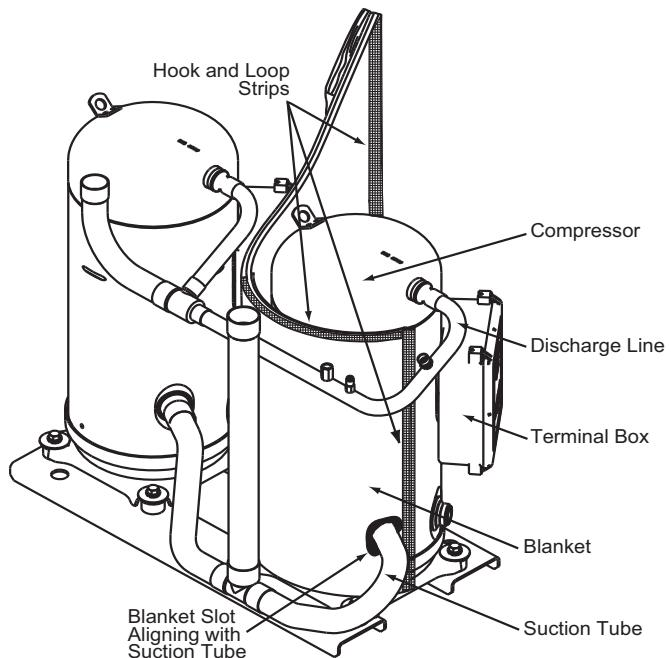

Fig. 5 — Align Blanket Slots with Suction Tube
- b. For all other units, wrap the sound blanket around the compressor in clockwise direction. See Fig. 5.
6. Align the slots in the blanket with the suction tube on the compressor. See Fig. 5.
7. Secure the blanket near suction tube with the hook and loop strips. See Fig. 5.